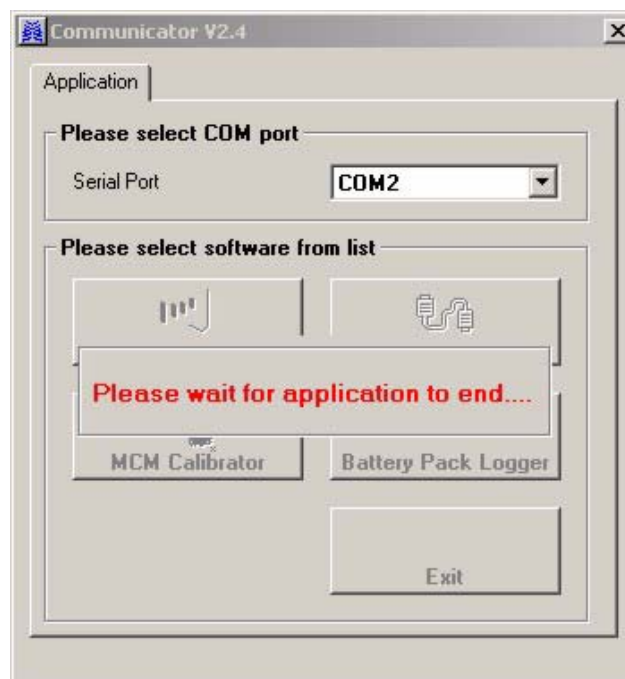

Figure 83 - Communicator Software - Closing the Software
- 7.2 If you try to close the Communicator software by selecting and closing the application startup dialog box directly, you will be prevented from doing it (refer to Figure 83). You must carry out the procedure detailed in Para 7.1, above.